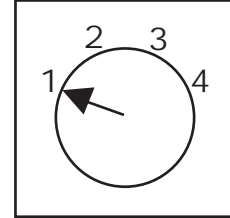

Figure 1 – 4 Voltage Setpoints
| 4 Voltage Setpoints (Fig. 1) | | Battery Type |
- Before installing, turn regulator over and select appropriate voltage setpoint for battery type (See Table 1 and Fig. 1).